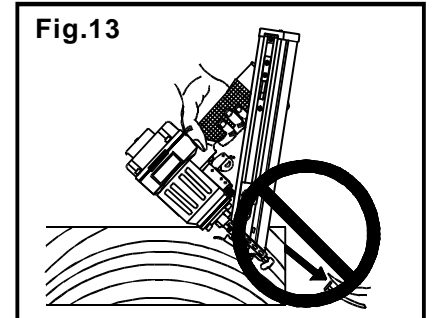

Fig.13
**23. DO NOT DRIVE FASTENERS CLOSE** to the edge of the workpiece. The workpiece is likely to split allowing the fastener to fly free or ricochet, causing personal injury. (See Fig.13)